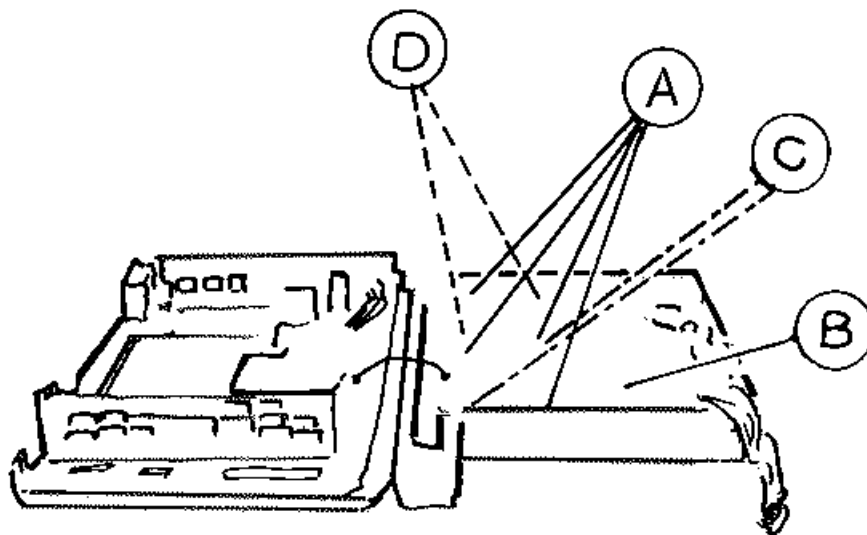

FIGURE 4-2. FDD AND HDD REMOVAL/REPLACEMENT
2. Remove four screws (A), Figure 4-2, from grounding plate (B).
3. Remove two screws (C) to remove drive A; remove two screws (D); and remove the insulation plate to remove the hard disk drive. Slide the drive through the opening in the front case of the main unit to remove.
1. Slide the drive through the opening in the front case (Figure 4-2). Install two screws (C) to secure drive A, and install the insulation plate and two screws (D) to secure the HDD.
2. Position grounding plate (B), then install four screws.